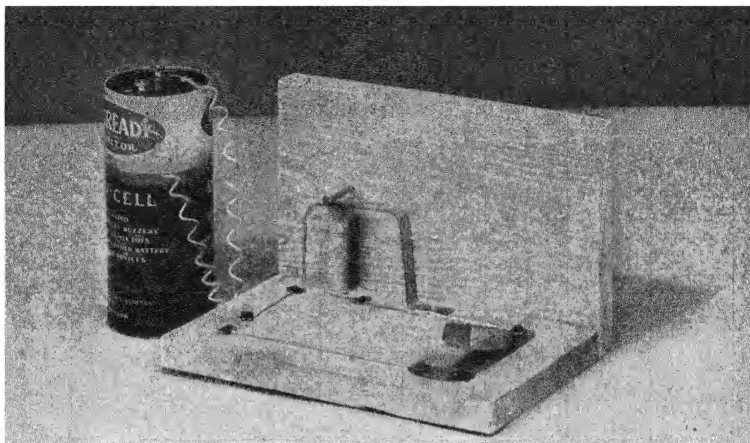

FIG. 435. A home-made telegraph. At the right is the key. The sounder clicks between the nail and the top of the electromagnet, which is a nail wound with wire.
c) If you do not have a commercial key and sounder, make an instrument as shown in Figure 435. Use about fifty turns of wire on the nail.